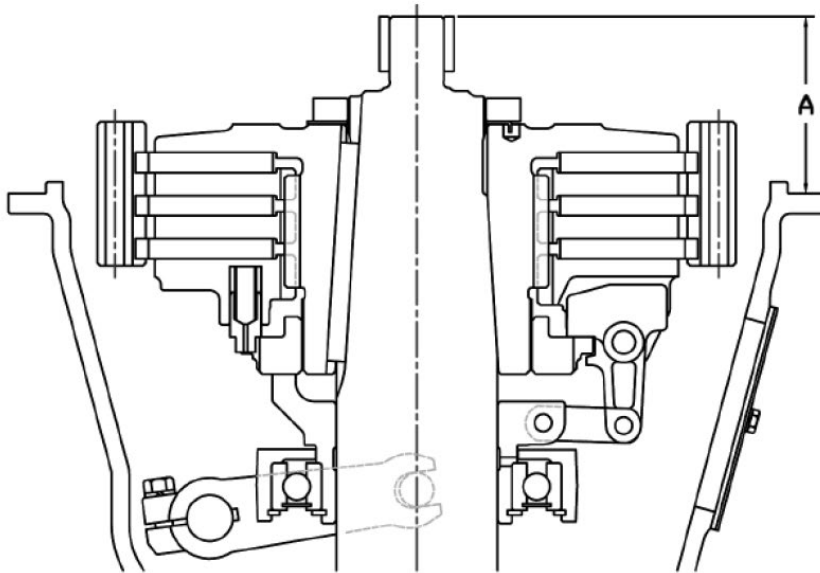

Figure 1
3. Measure dimension A as shown in figure 1